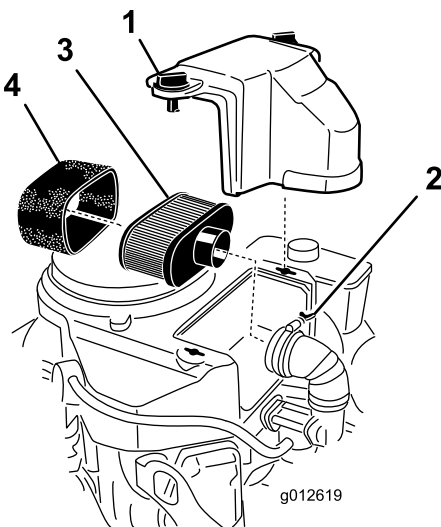

Figure 41
3. Clean around the air cleaner to prevent dirt from getting into the engine and causing damage (Figure 41).
4. Loosen the cover knobs and remove the air-cleaner cover (Figure 41).
5. Loosen the hose clamp and remove the air-cleaner assembly (Figure 41).
6. Carefully pull the foam element off the paper element (Figure 41).
Note: If it is very dirty, replace the paper element with a new one (Figure 41).
1. Carefully slide the foam element onto the paper air-cleaner element (Figure 41).
2. Place the air-cleaner assembly onto the base of the air cleaner or hose and secure it (Figure 41).
3. Place the air-cleaner cover into position and tighten the cover knob (Figure 41).